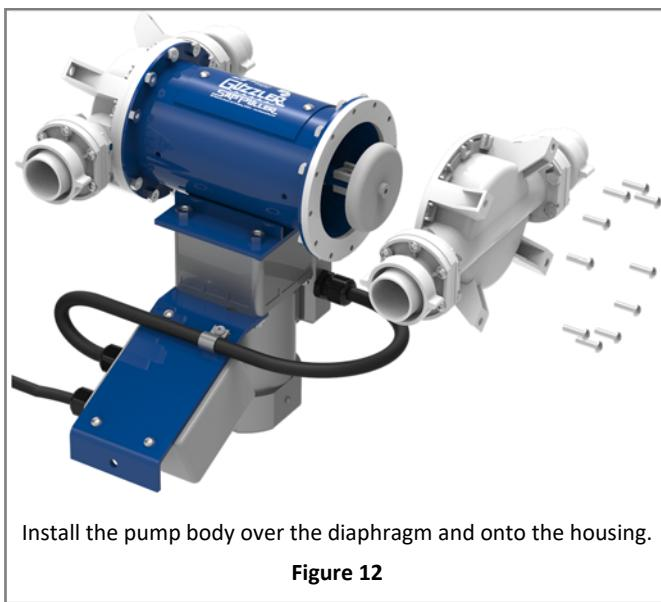

Figure 12
11. Place the pump body up against the diaphragm and align it with the holes in the housing. (*Figure 12*) Be sure that the diaphragm's outer lip sits in the groove running around the circumference of the pump body. (*Figure 13*) (Note: Ensure the pump body is installed in the correct orientation, with the outlet facing up.)